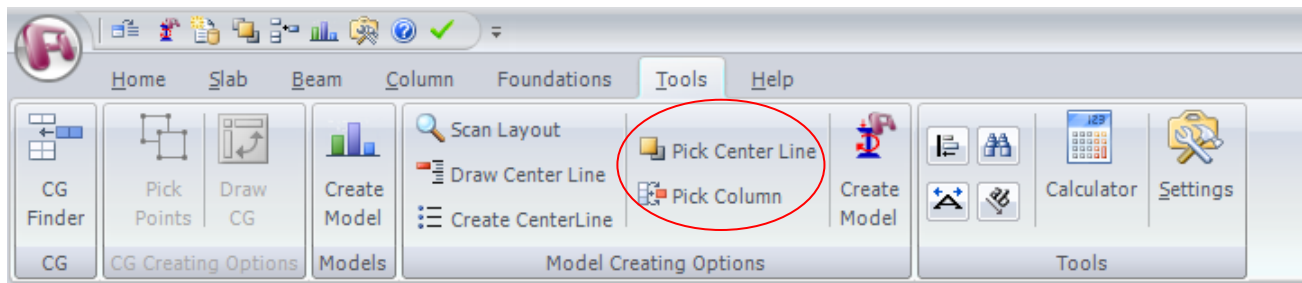

Fig 3.5
- Click on the **Pick Center Line** from tool bar (Fig 3.5)